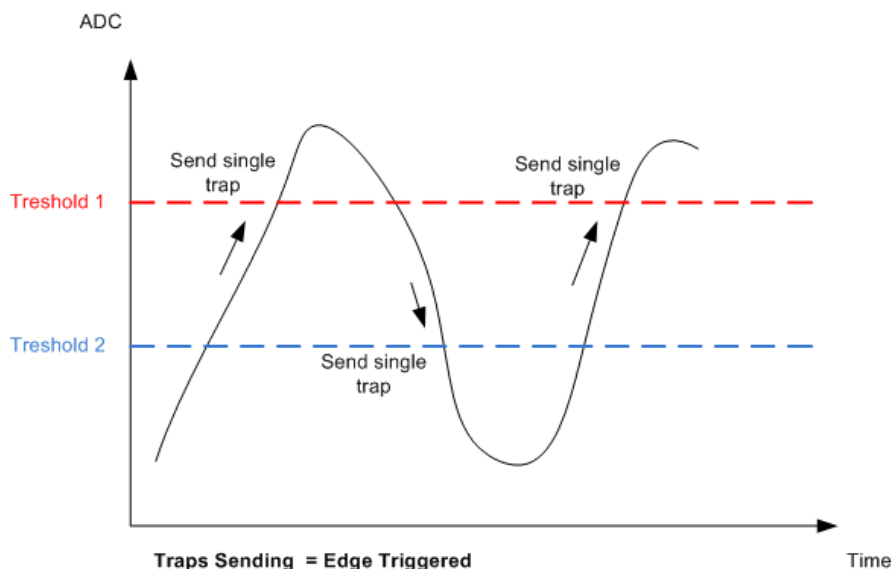

Figure 7.20. Sending tarps with Traps Sending = "Edge Triggered"
- If **Traps Sending** parameter from web page "**SNMP Traps Settings**" is set to "**Edge Triggered**" a single trap is sent when measured value crosses over the **High Threshold** or below the **Low Threshold** values (Figure. 7.20).